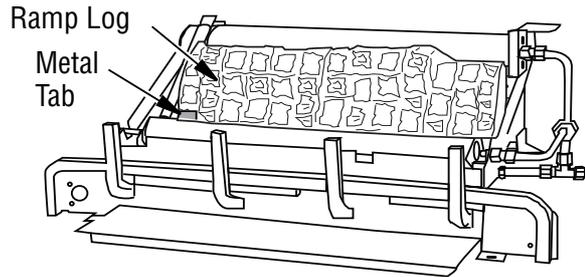

Figure 28 - Installing Fiber Ramp Log
1. Place fiber ramp log in center of chassis as shown in **Figure 28**. The fiber ramp log can be identified by the shape and much lighter weight when compared to the other logs. The log must sit flat on the black sheet metal and behind the left metal tab as shown. Make sure the side marked "BOTTOM" is setting down.